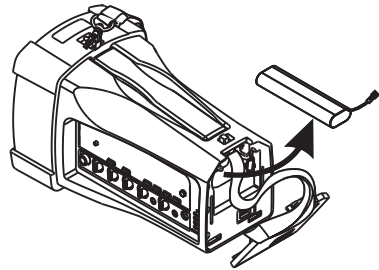

Fig. 34
- (D) Remove and replace with a new battery module. Reconnect latch cable together and insert into the battery compartment, Fig. 34.